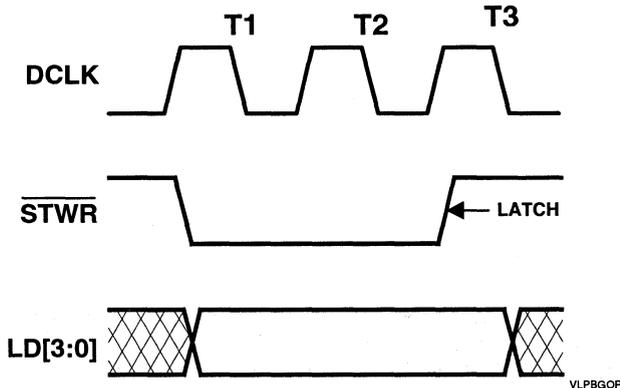

Figure 12-6. General I/O Port Timing (PCI)
5. Write (anything) to CR5C. The data on LD[7:4] are latched 2 DCLKs later into MMFF1C_7-4. (This also drives the contents of MMFF1C_3-0 onto LD[3:0] and generates the STWR pulse on pin 190. The input data is latched on the rising edge of STWR. See Figure 12-6)
LD[3:0] and the $\overline{\text{STWR}}$ pulse is generated. The rising edge of $\overline{\text{STWR}}$ (2 DCLKs after it is asserted) can be used to latch the data into an external device. The data is held valid for 1/2 DCLK after this edge. See Figure 12-6.